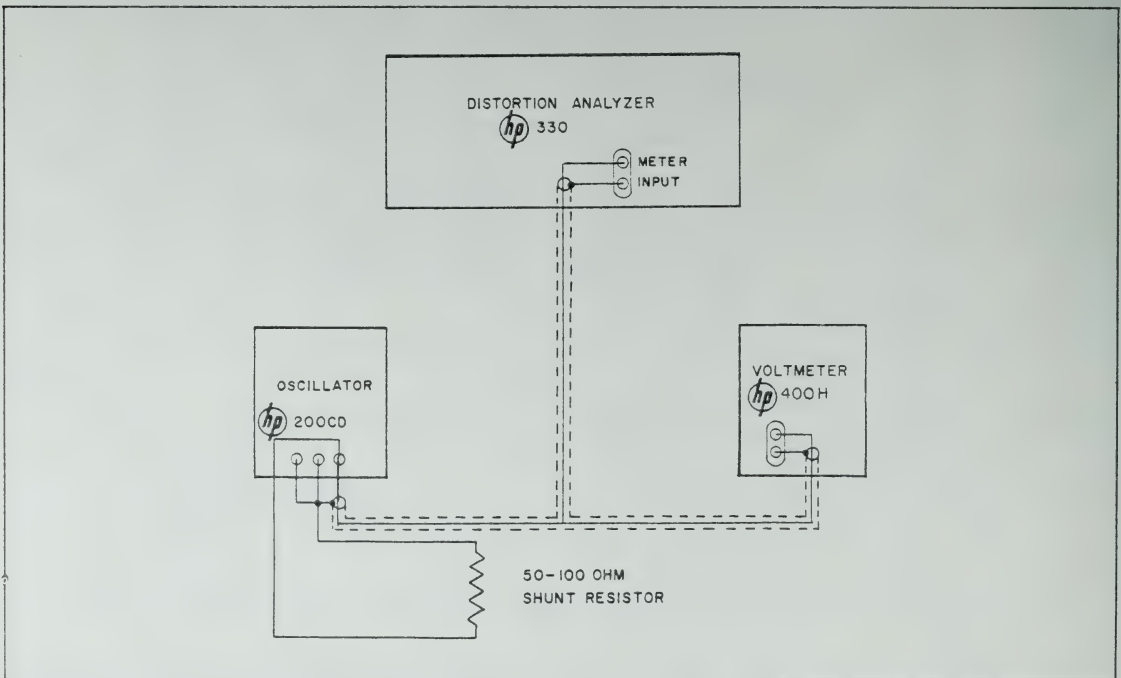

Figure 4-4. Test Bench Equipment Arrangement with Shunt Resistor
e. Disconnect transformer 200CD-9. Connect equipment as shown in figure 4-4. Set 330B voltmeter and 400H to .03-volt range. Adjust output frequency of 200CD to 1000 cps and adjust its output amplitude to produce reading of 0.9 on 0-1 scale of 330B meter. Record reading obtained on 400H (reference level).
a. Connect equipment as shown in figure 4-4. Set 330C/D meter and 400H to .03-volt range. Adjust output frequency of 200CD to 1000 cps and adjust its output amplitude to produce a reading of 0.9 on 0-1 scale of 330C/D meter. Record reading obtained on 400H (this meter reading is referred to as "reference level" in the following procedure).